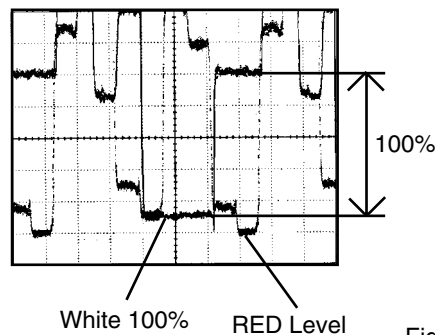

Fig. 2-2
9. Press the VOL. UP/DOWN button on the remote control until the red color level is adjusted to $115 \pm 10\%$ of the white level. (**Refer to Fig. 2-2**)